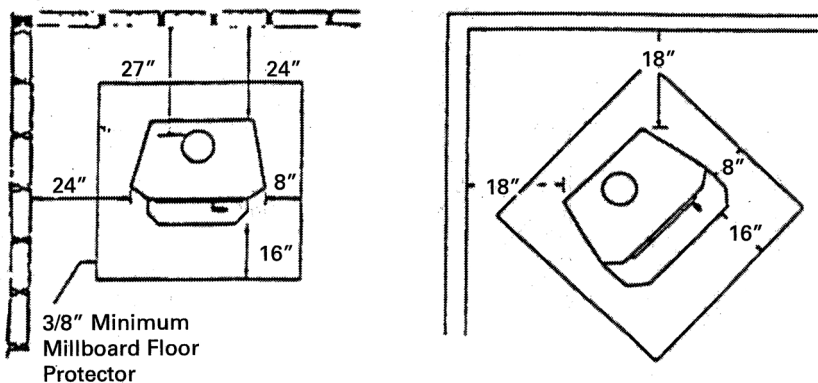

FIGURE 4
1. Minimum clearance to combustibles must be maintained as shown in Figure 4.